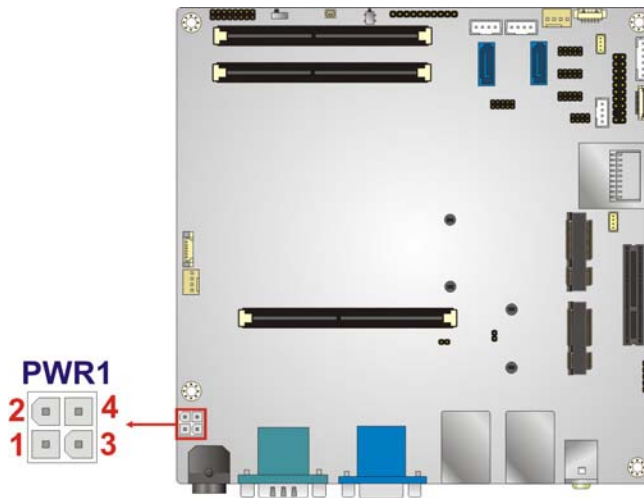

Figure 3-6: CPU Power Connector Location
- CN Location: See **Figure 3-6**